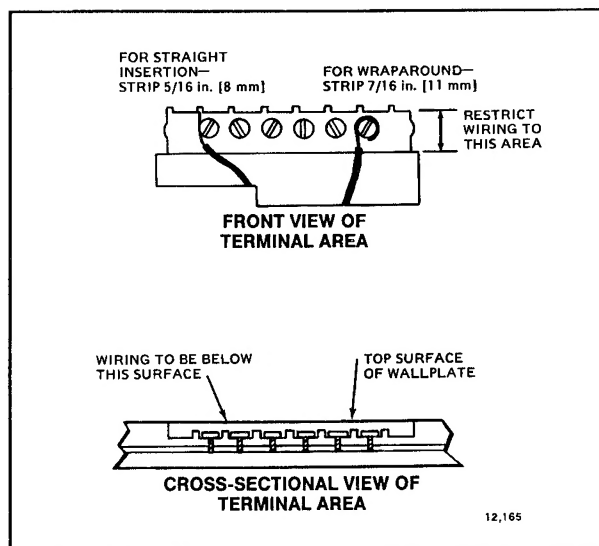

FIG. 5—KEEP WIRING RESTRICTED TO RIBBED AREA SURROUNDING TERMINALS.
The shape of the terminal barrier permits insertion of straight or conventional wraparound wiring connections. Either method is acceptable (Fig. 5).
**NOTE:** Keep all wiring restricted to ribbed area surrounding terminals (Fig. 5) to assure thermostat/wallplate contact.